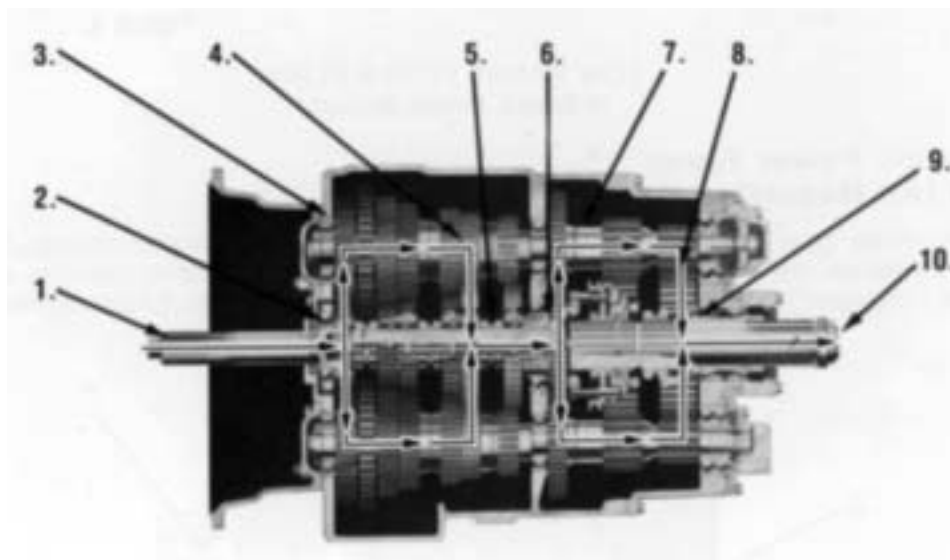

Figure 1.
4. Torque is delivered along both countershaft to mating countershaft gears of "engaged" main-shaft gear. The following cross section views (Figures 2-4) illustrate a 1st/5th speed gear engagement. Figure 1 illustrates the engagement of the Lo Speed Gear.